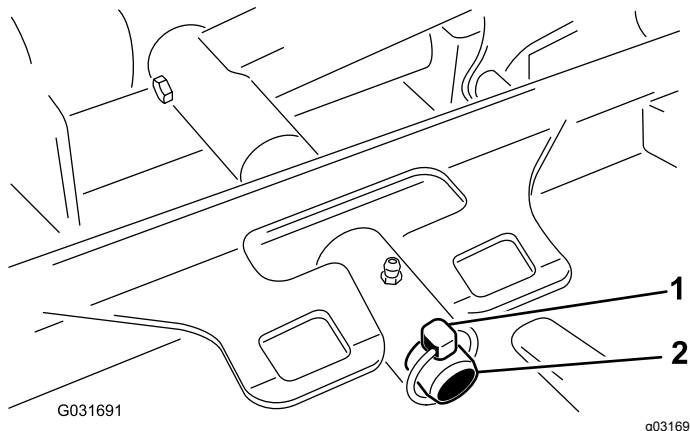

Figure 93
3. Remove the lynch pin securing the deck carrier frame to the lift arm pivot pin (Figure 93).
3. Slide the deck carrier frame onto the lift-arm pivot pin and secure it with the lynch pin (Figure 93).